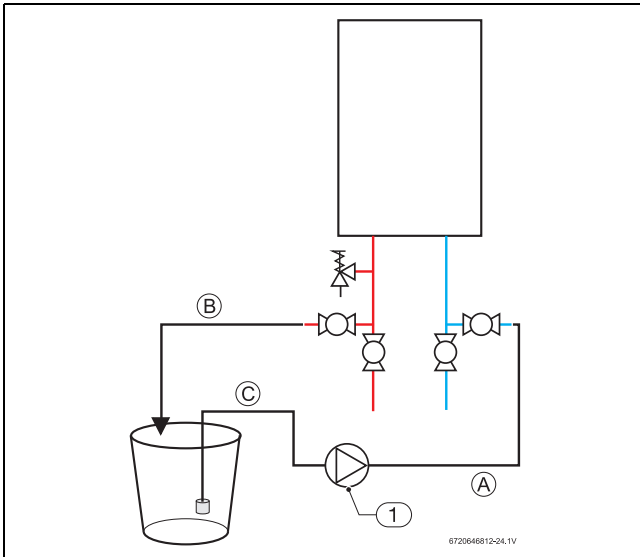

Fig. 61
- ▶ Connect a line (A) from the outlet of the circulating pump (installer supplied) to the inlet water fitting on the water heater (see fig. 61.)
- ▶ Using another line (B), connect the water outlet fitting on the water heater. Route the other end of this line into a descaling reservoir.
- ▶ Using a 3rd line (C) from the descaling reservoir, connect to the inlet side of circulating pump. Install a filter on the end of the line in the descaling reservoir.